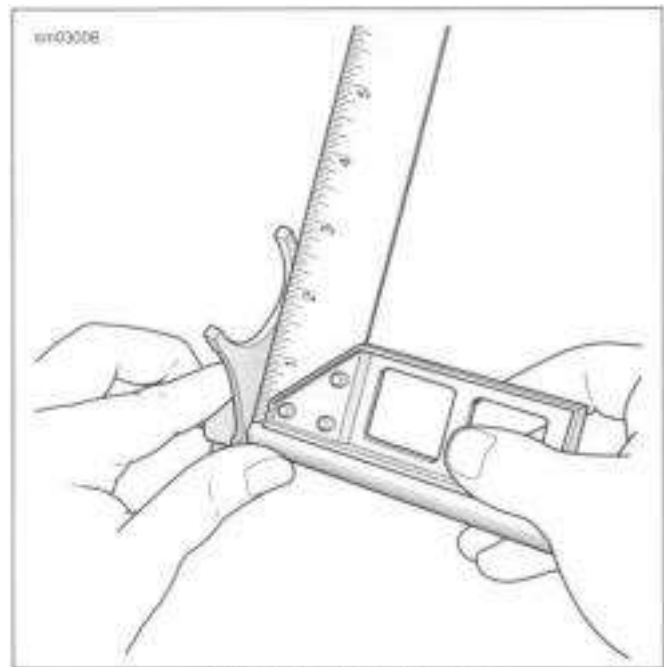

Figure 5-56. Checking Fork
7. See Figure 5-56. Using a small square, verify that the shift forks are square. Replace shift fork if not square.